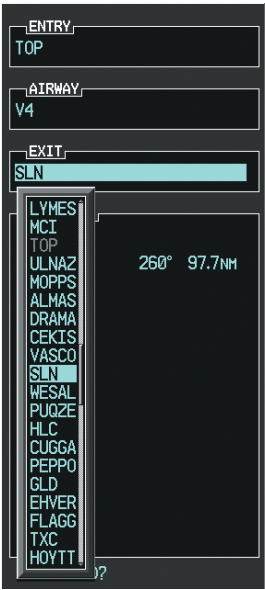

Figure 5-107 List of Available Exits for V4
h) Press the **ENT** Key. The list of available exits for V4 is now displayed as in Figure 5-107.
- i) If necessary, turn either **FMS** Knob to select the desired exit. In this case Salina VOR (SLN) is selected as in Figure 5-107.